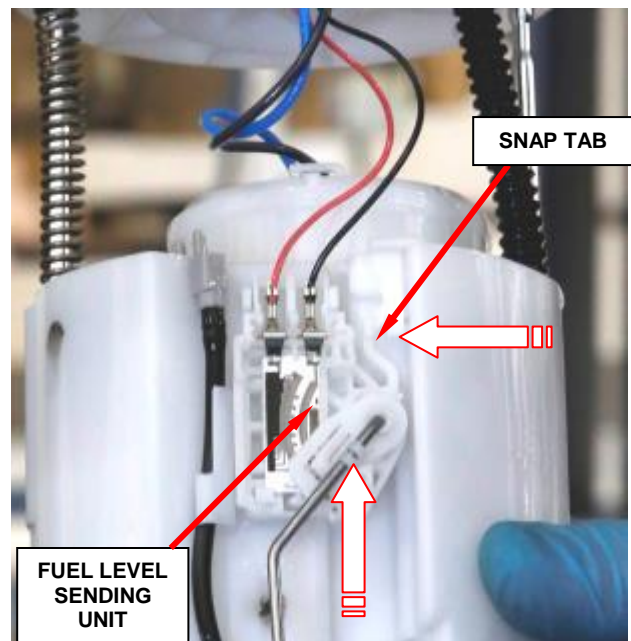

Figure 11 – Fuel Sending Unit Removal
- 26. Using your finger, press the fuel level sending unit snap tab to the left while gently pushing up on the bottom of the fuel level sending unit then remove and **discard** (Figure 11).